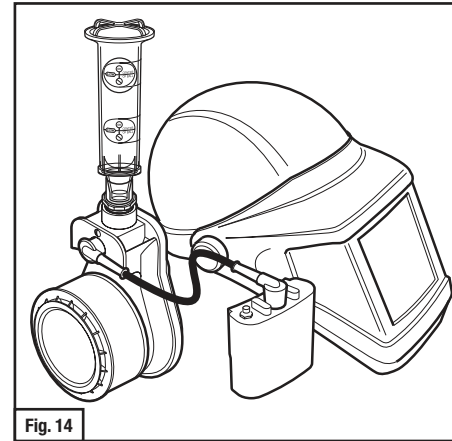

Fig. 14
- a. L-181 adapter: Insert into the vinyl connector (Fig. 14) and hold vertically.